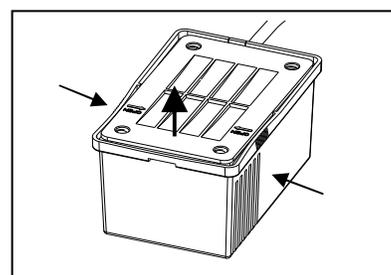

Fig. 13
2. Remove the fountain head and extension tube. Turn over the filter box assembly. Open the filter housing by pushing on the sides of the housing. As you press on the sides of the filter housing, the top and bottom will unlock. Fig. 13